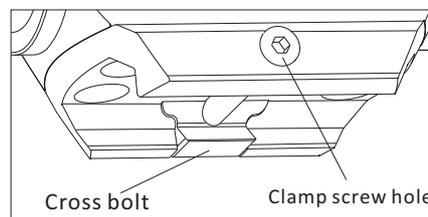

Fig 3
2. Insert the appropriate Torx wrench into the clamp screw hole, then rotate to loosen the cross bolt then slide the sight into the firearm rail to the right position, and finally tighten the clamp screw. (Fig3)